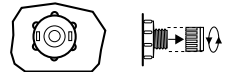

Figure 13.2i
2. Locate the drain valve located on the front left corner on the black plastic pan. Hold the larger (rear) drain valve body to prevent it from turning, then loosen and remove the front cap to expose the underlying male hose threads, Figure 13.2i.